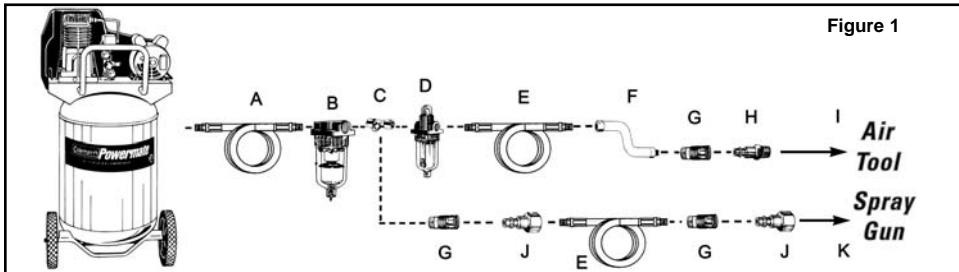

Figure 1
- Connect the tool to the air hose quick coupler. **NOTE: It is recommended that a whip hose with a swivel (P012-0079SP - not included) be used to prevent twisting, kinking, and excessive wear to the air hose (see figure 1 for recommended connections).**